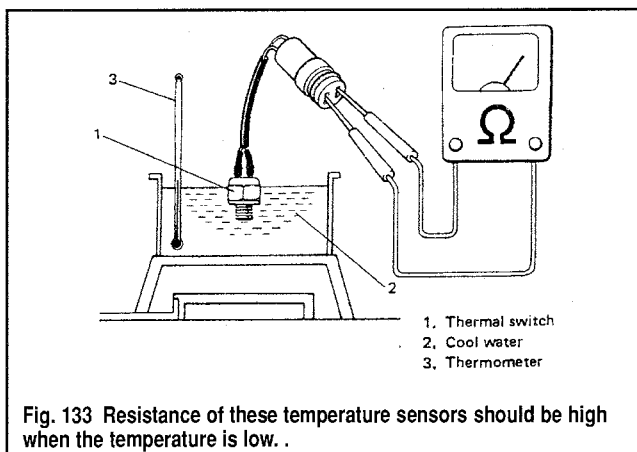

Fig. 133 Resistance of these temperature sensors should be high when the temperature is low.
- ◆ See Figures 133 and 134
◆ See Figures 133 and 134